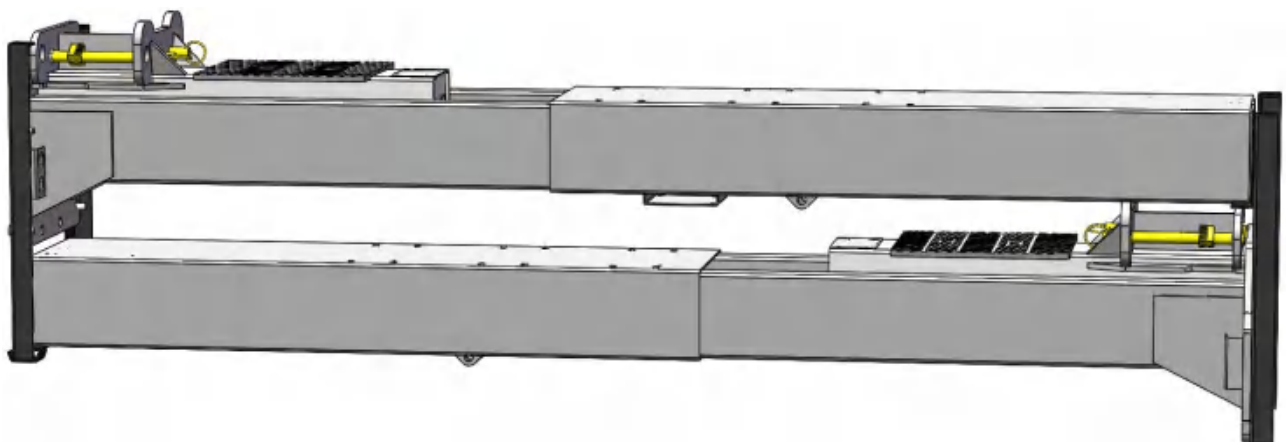

Fig. 12
3. Take out 2pcs top beam, move them aside to the installation position. **(See Fig. 12).**